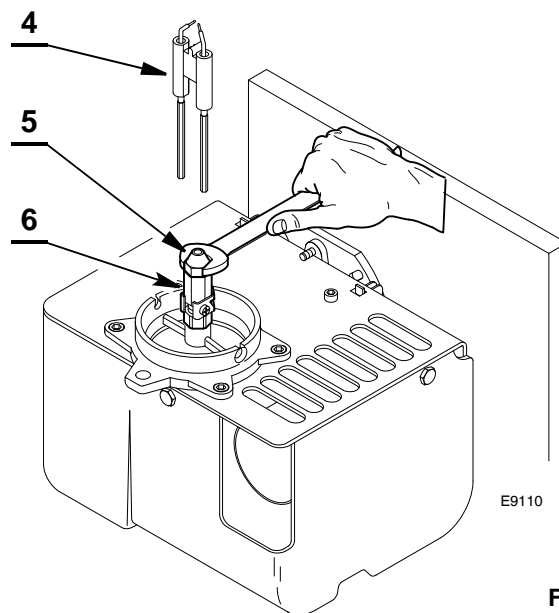
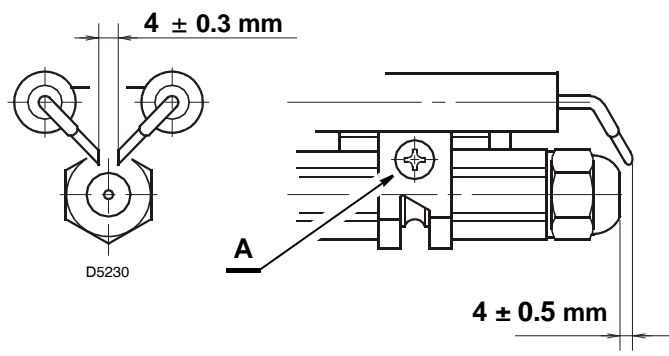

Fig. 22
Fig. 23
- Remove the electrodes assembly (4) (Fig. 22) from the nozzle holder (6) after loosening its fixing screw (A), (Fig. 23).
- Replace the nozzle (5) (Fig. 22) and screw the new one on properly, holding it as illustrated in figure.
Before removing or assembling the nozzle, loosen the screw (A, Fig. 23) and move the electrodes ahead.